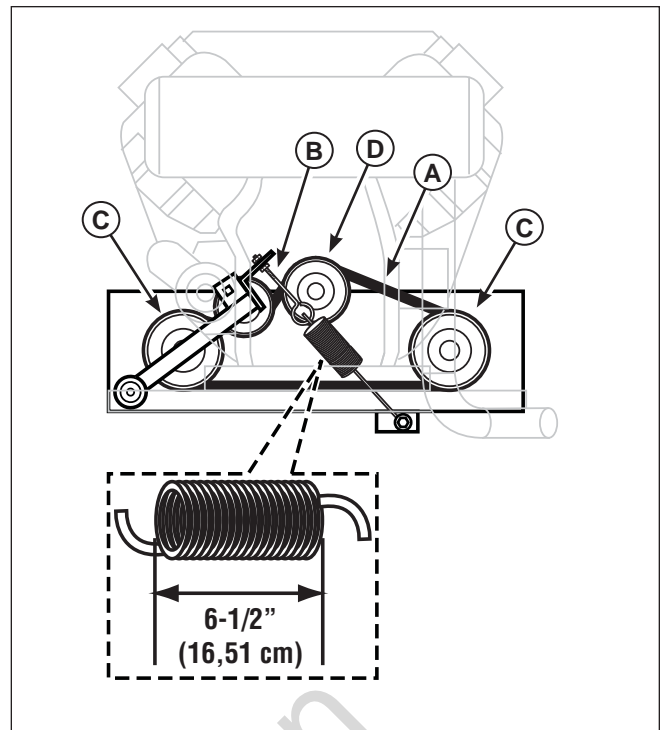

Figure 47. Hydraulic Pump Drive Belt Replacement
2. Raise the hood to gain access to the hydraulic pump drive belts (A, Figure 47).